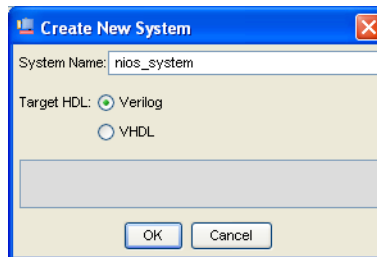
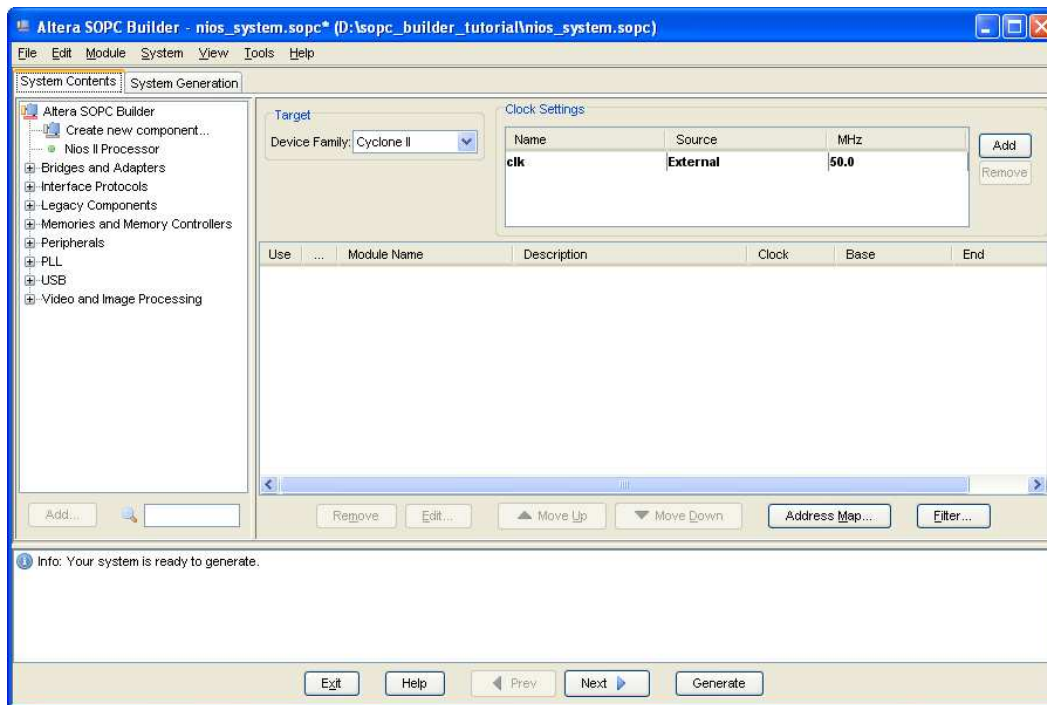
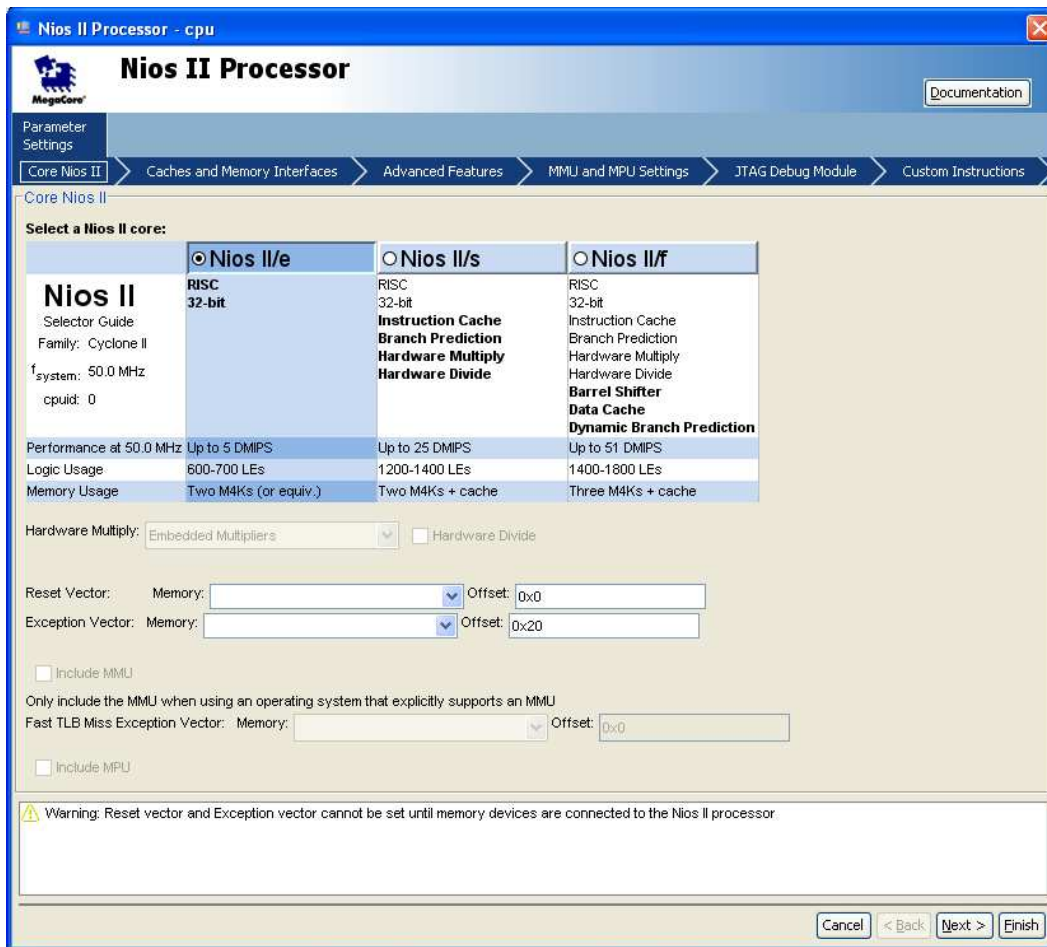
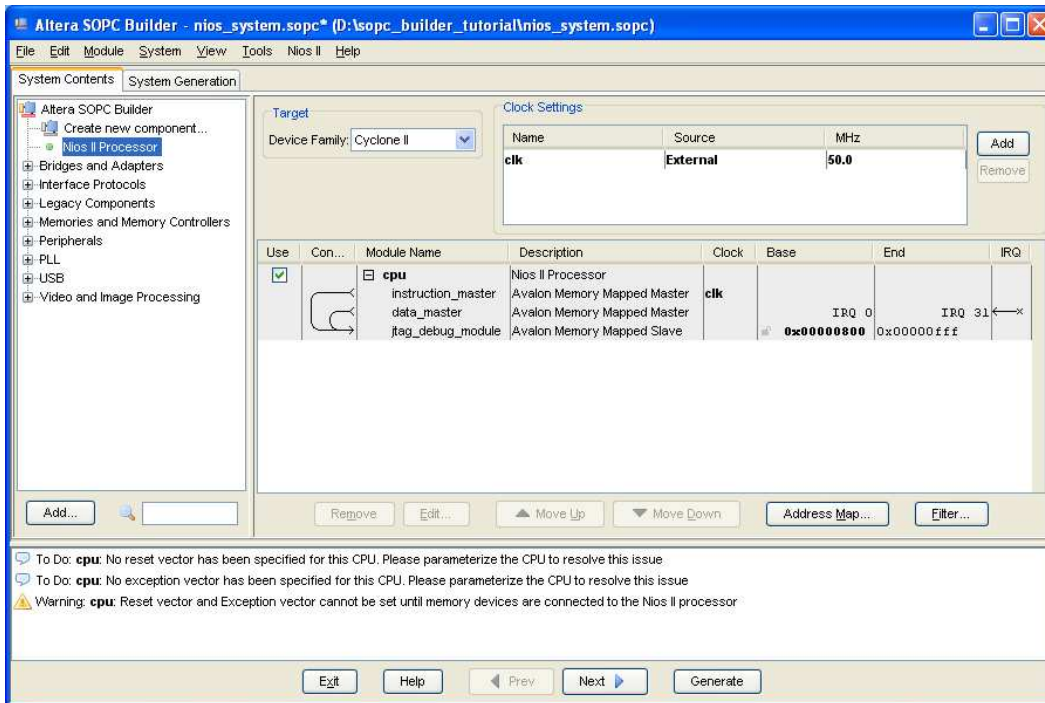

Figure 4. Create a new Nios II system.
Figure 5. The System Contents tab window.
Figure 6. Create a Nios II processor.
Figure 7. The defined processor.
2. Select **Tools > SOPC Builder**, which leads to the pop-up box in Figure 4. Enter *nios_system* as the system name; this will be the name of the system that the SOPC Builder will generate. Choose Verilog as the target HDL, in which the system module will be specified. Click OK to reach the window in Figure 5.
3. Figure 5 displays the System Contents tab of the SOPC Builder, which is used to add components to the system and configure the selected components to meet the design requirements. The available components are listed on the left side of the window. Before choosing our components, examine the area in the figure labeled **Target**. Check the setting for the **Device Family** and ensure that **Cyclone II** is selected.
4. The Nios II processor runs under the control of a clock. For this tutorial we will make use of the 50-MHz clock that is provided on the DE2 board. As shown in Figure 5, it is possible to specify the names and frequency of clock signals in the SOPC Builder display. If not already included in this list, specify a clock named *clk* with the source designated as **External** and the frequency set to 50.0 MHz.
- On the left side of the window in Figure 5 select Nios II Processor and click Add, which leads to the window in Figure 6.
- Choose Nios II/e which is the simplest version of the processor. Click **Finish** to return to the window in Figure 5, which now shows the Nios II processor specified as indicated in Figure 7. There may be some warnings or error messages displayed in the SOPC Builder Messages window (at the bottom of the screen), because some parameters have not yet been specified. Ignore these messages as we will provide the necessary data later.